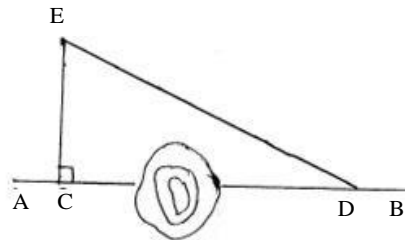

Fig. 2.19
3) Select two points C and D (fig 2.19) on either side of the obstacle. Set out perpendicular CE of length such that DE clears the obstacle. Measure CE and DE then.